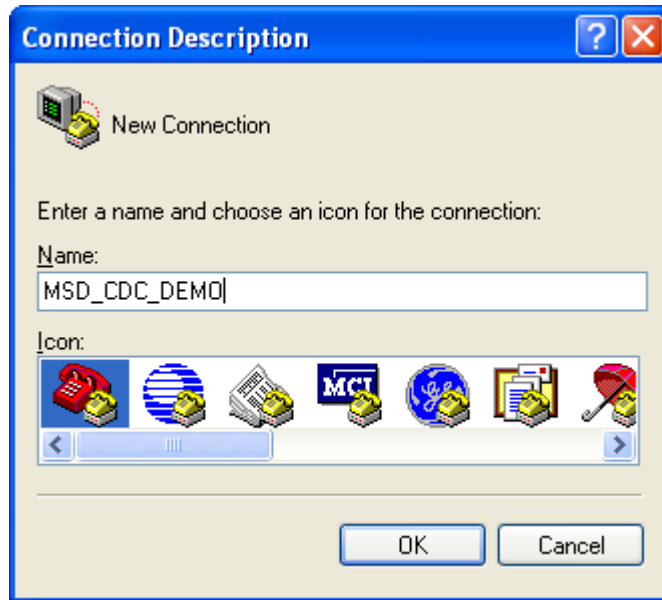

Figure K-24. HyperTerminal startup
- Step 2. Enter name of connection as Figure K-24.